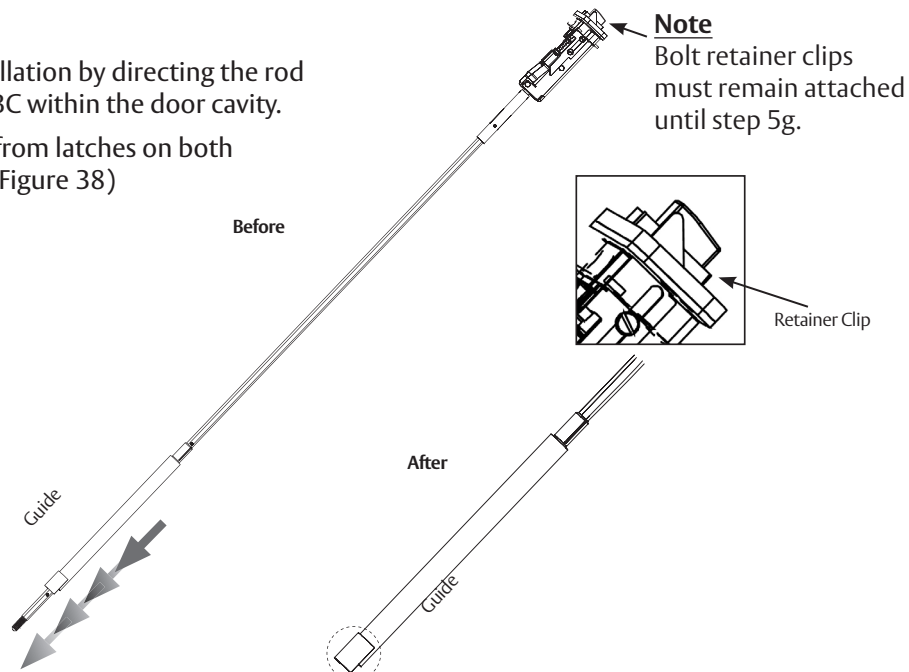

Figure 38
- Pull rod guides away from latches on both rods until they stop. (Figure 38)